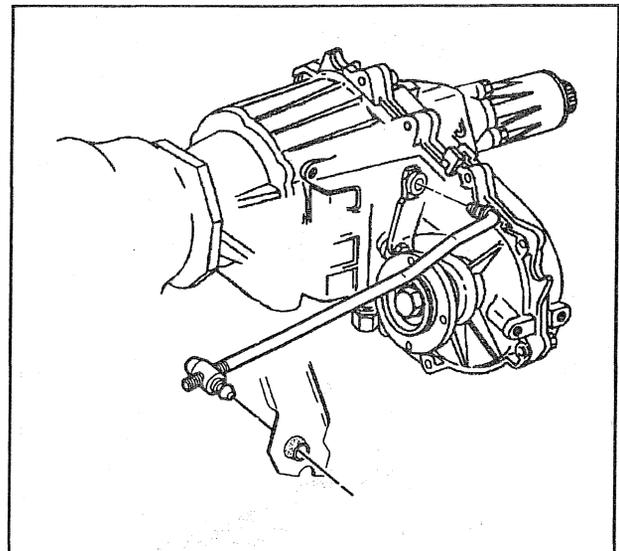

Figure 1—Transfer Case Linkage
Refer to figures 1 and 2.
**↔ Remove or Disconnect (Figures 1, 2, 4, and 5)**
**↔ Install or Connect (Figures 1, 2, 4, and 5)**